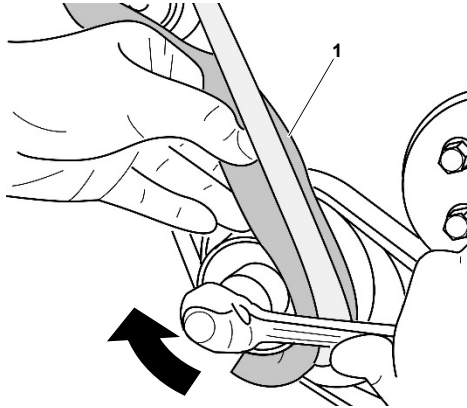

Fig. 3: **Guiding the webbing over the stretch belt.**
3. Guide webbing '1' over stretch belt as shown in **Fig. 3**.